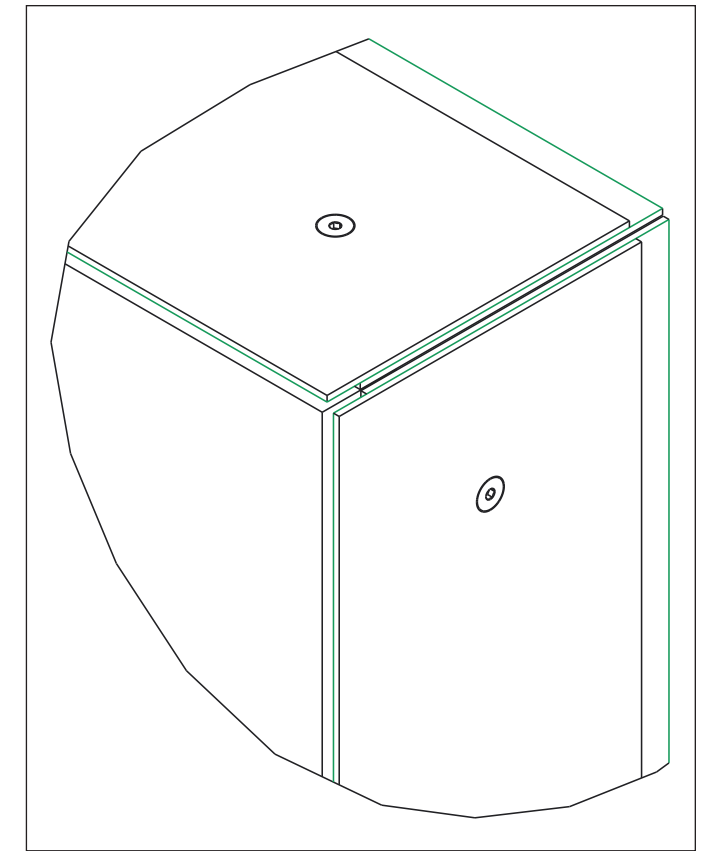

Figure 2: Adjust Border Spacer
4. Adjust the border spacer back to the wall up to $\frac{3}{4}$ " [20 mm] (if necessary) to fill any gaps created while adjusting the display with shims and jacking hardware. Refer to **Figure 2**.